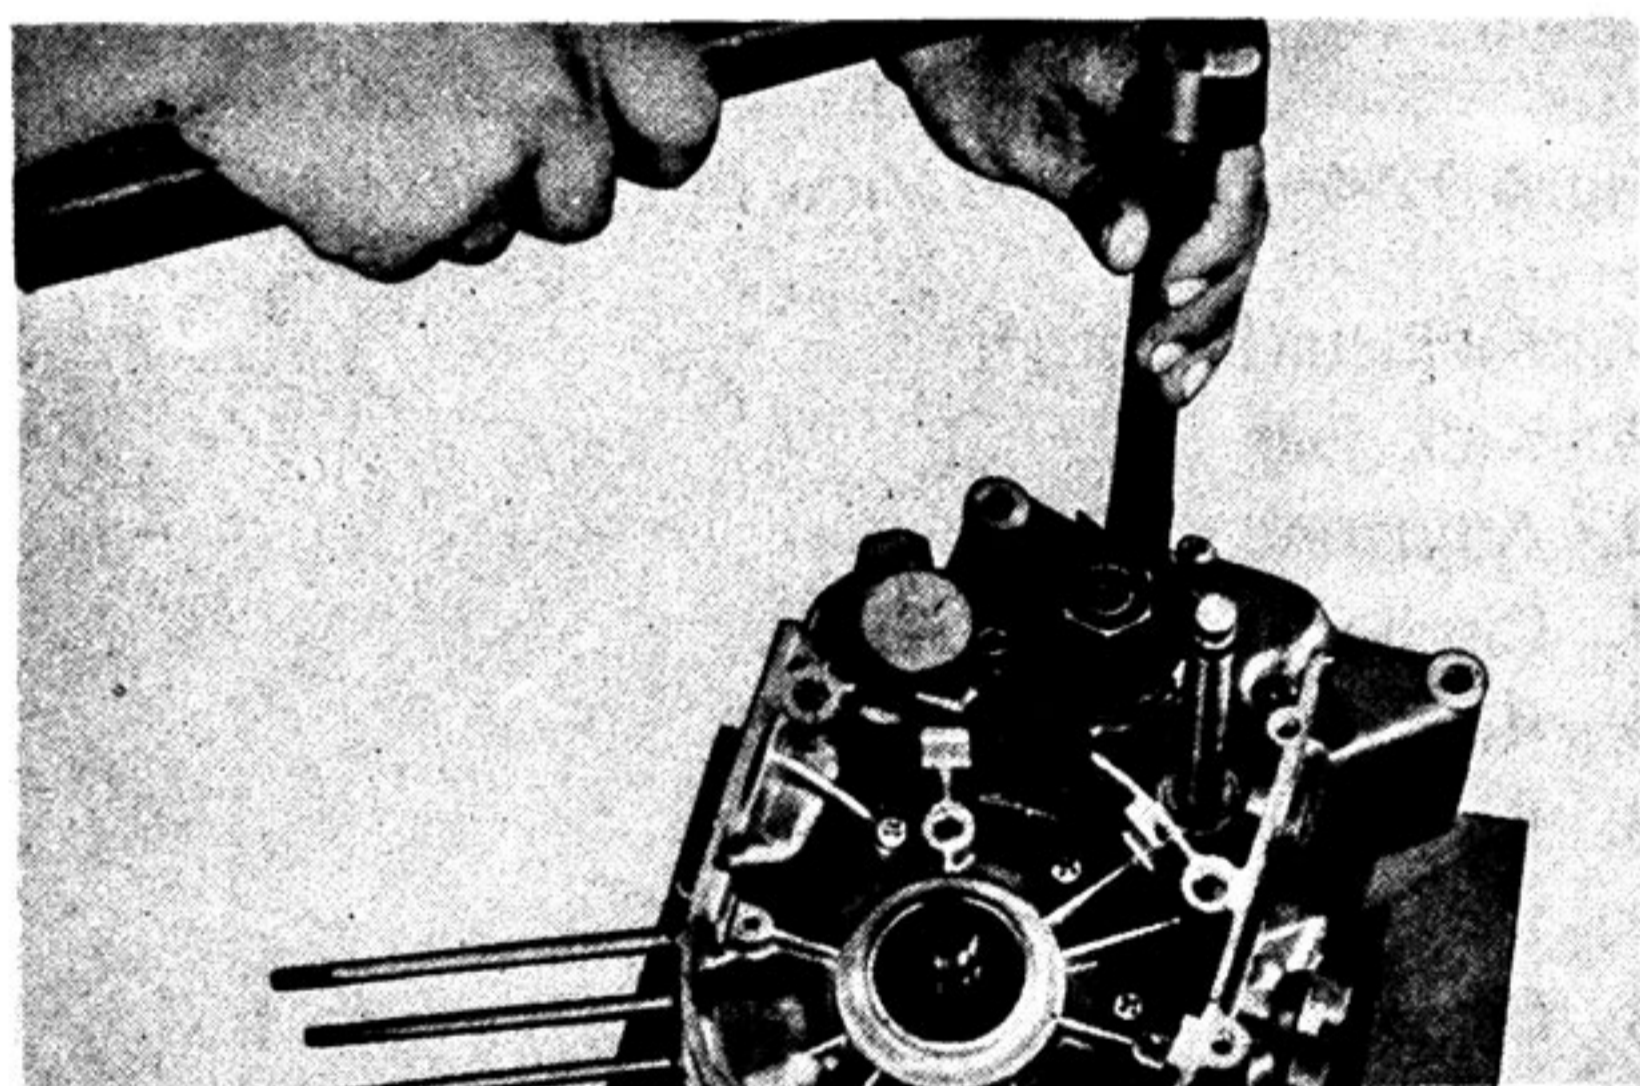

Fig. 4-13-1
- a. Straighten the bent edge of the locking washer with a chisel. (Fig. 4-13-1)